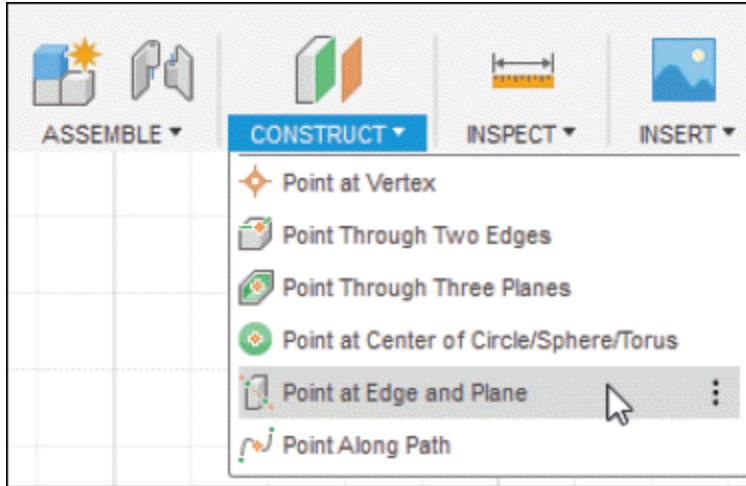
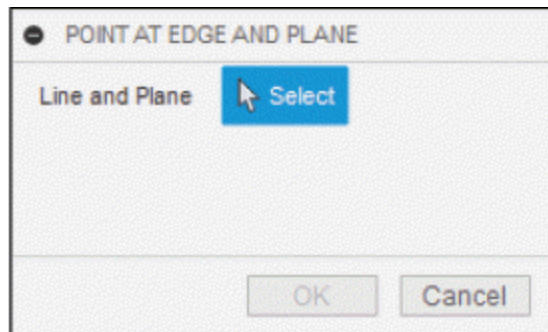

Figure-136. Point at Edge and Plane tool
Figure-137. POINT AT EDGE AND PLANE dialog box
- Click on the **Point at Edge and Plane** tool of **CONSTRUCT** drop-down from **Toolbar**; refer to Figure-136. The tool will be activated and respective dialog box will be displayed; refer to Figure-137.